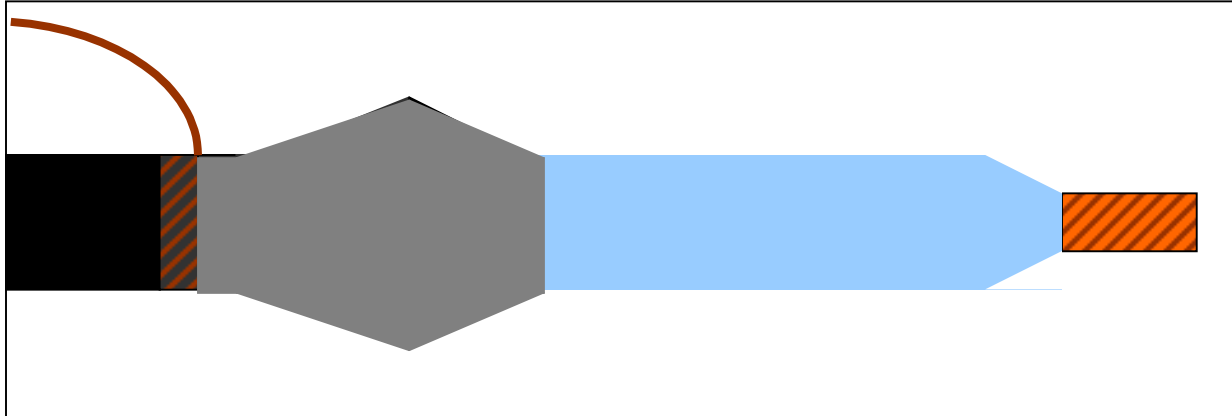

Figure 4, Stress-Cone with Two Layers of Vinyl Tape
- Next apply two layers of #33 (stick to just one example) vinyl electric tape, start at the concentric neutral and apply two layers of tape to the top of the stress-cone and on the insulation layer for ¼ of an inch. As seen in Figure 4.